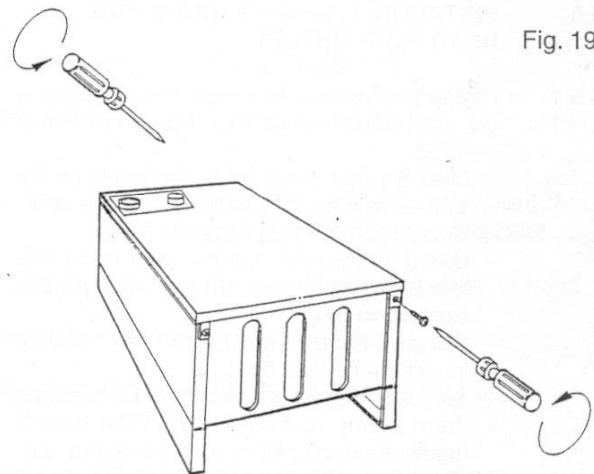
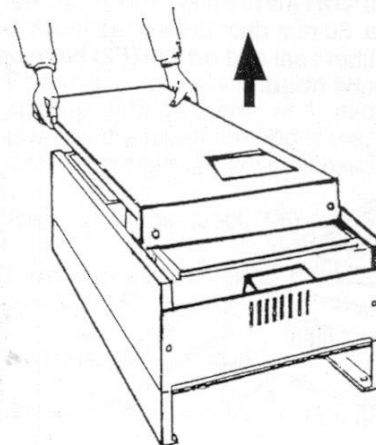

Fig. 19
Fig. 20
5.4.1 Remove the 4 screws that secure the upper part of the front panel of the casing (Fig. 19). Carefully lift off (Fig. 20).